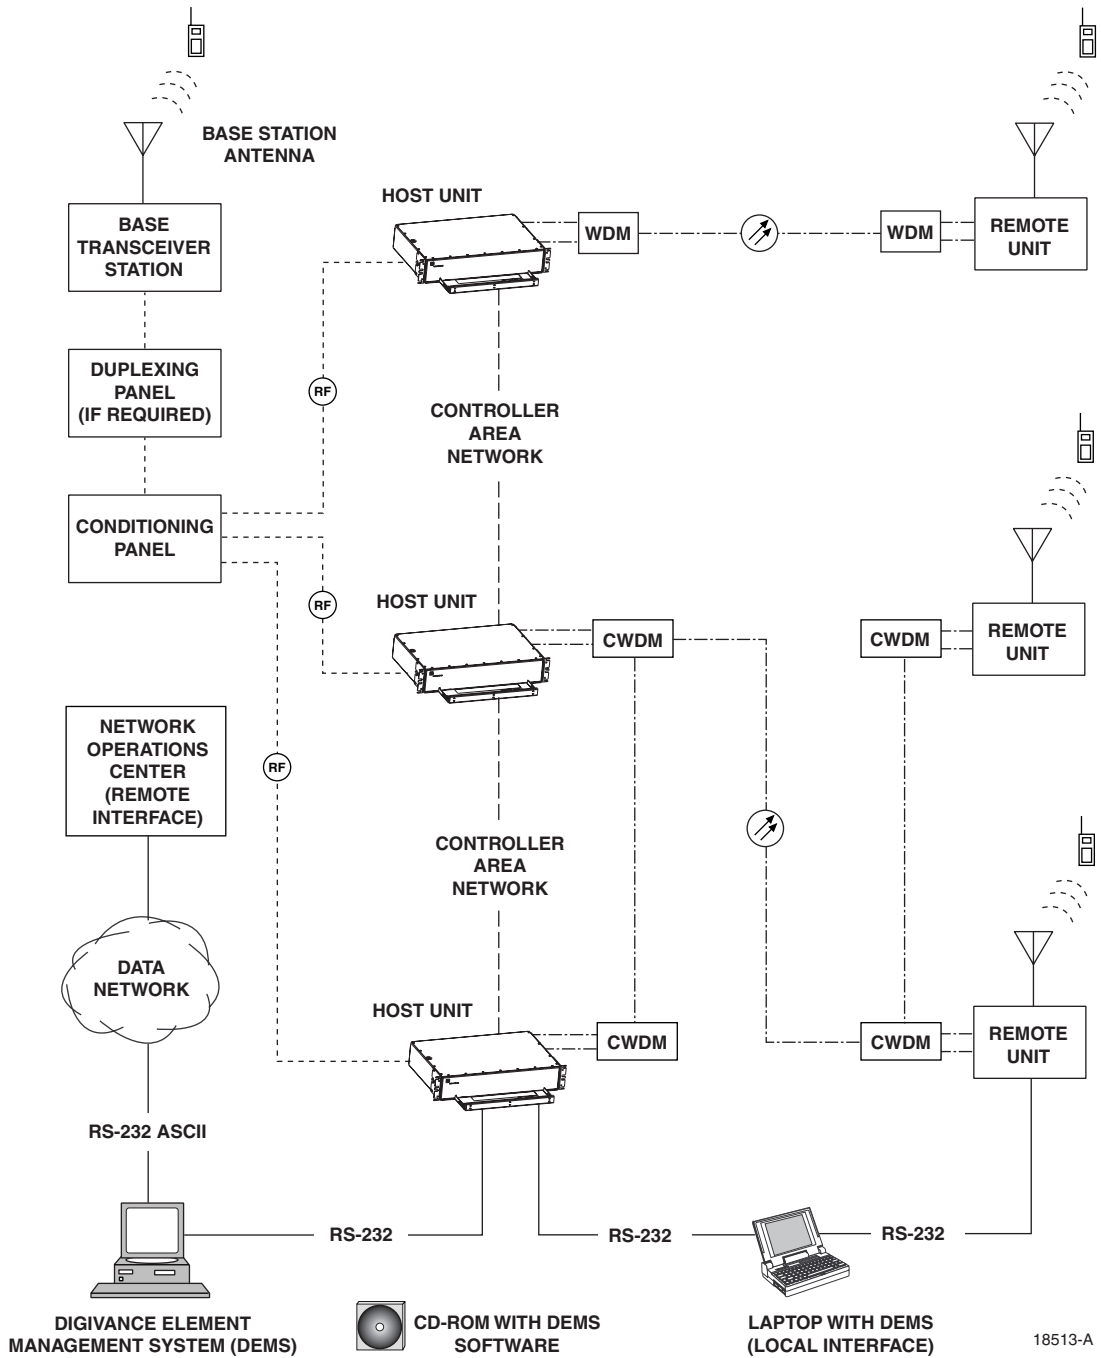

Figure 1-1. 20 Watt System Overview Diagram
The basic components of a Digivance 20 Watt System and their functions are shown in Figure 1-1. A 20 Watt system consists of the Host Unit (HU) and the Remote Unit (RU). Both an indoor and an outdoor remote unit are available. Control and monitoring functions are provided by the Digivance Element Management System (DEMS), a PC-based software program. In addition, various accessory items are available separately including a passive Wavelength Division Multiplexer (WDM), an active Coarse Wavelength Division Multiplexer (CWDM) system, conditioning and duplexing panels (for interfacing the HU with the BTS),